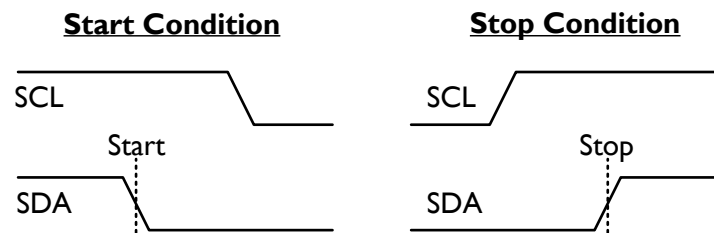

Fig. 8: I^2C bus start and stop conditions.
Each transmission is initiated when the master sends a '0' start bit (S), and the transmission is terminated when the master sends a '1' stop bit (P). **These bits are exclusively transmitted while the SCL line is high.** The waveforms corresponding to these conditions are illustrated in Fig. 8.
Once the start condition has been set, the SCL line is toggled at the prescribed data-rate, clocking subsequent data transfers. Data on the SDA line is always sampled on the rising edge of the SCL line and must remain stable while SCL is high to prevent false Start or Stop conditions (see Fig. 8).